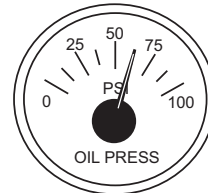

Figure 56. Oil Pressure Gauge
9. The **engine oil pressure gauge** (Figure 56) will indicate the oil pressure of the engine. Under normal operating conditions the oil pressure should be between 42.1 and 85.6 psi (290–590 kPa). When starting the generator the oil pressure may read a little higher, but after the engine warms up the oil pressure should return to the correct pressure range.